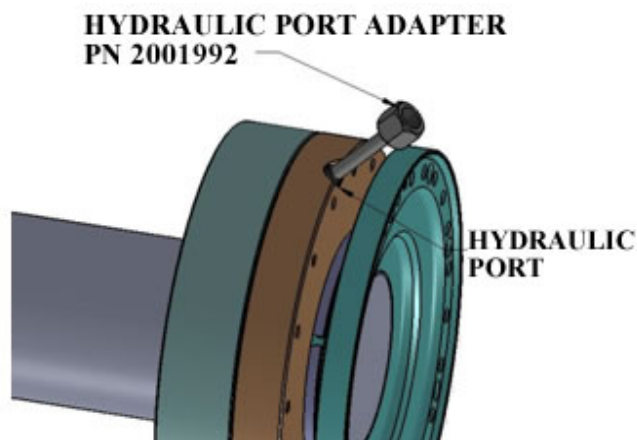

Figure 4
Caution: Possible equipment damage. Do not put excessive torque on the hydraulic port adapter. Do not pull on hydraulic port adapter (See Figure 4).
2.4.4 Thread the Hydraulic Port Adapter fitting (Riverhawk PN 2001992) into one of the hydraulic ports on the HTC as shown in Figure 4.
5.2 Install the hydraulic adapter in one port as in Figure 4.